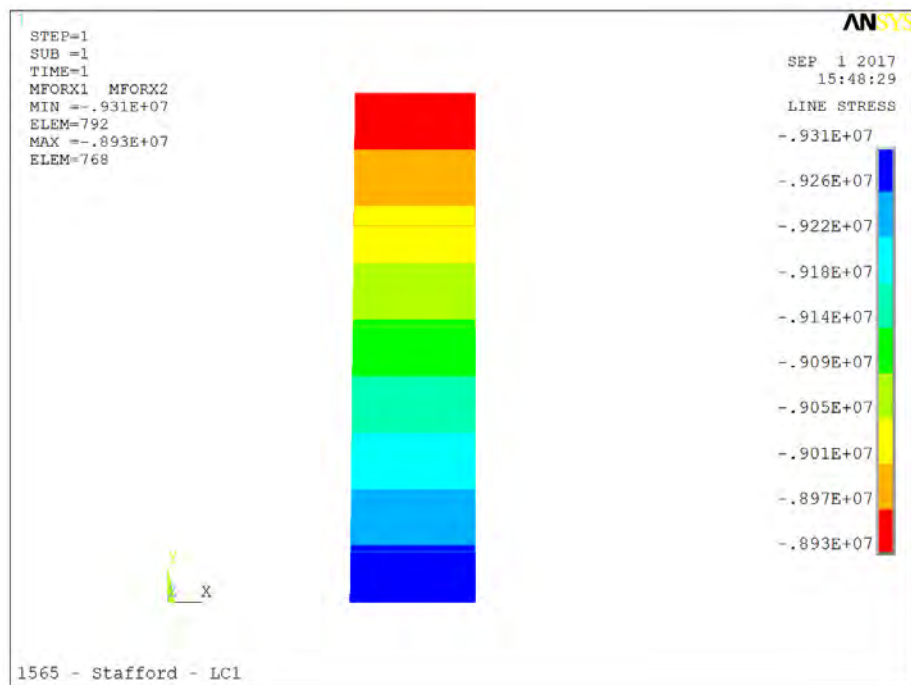

Fig. 1D
- **Fig. 1D - Wall axial force (lbs/360)**